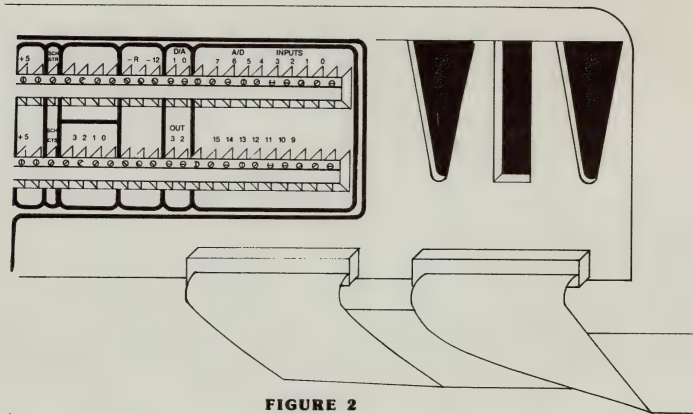

FIGURE 2
- G. CONNECT THE OTHER END OF THE ISAAC/APPLE CABLE TO CONNECTORS E1 AND E2 AT THE REAR OF ISAAC'S CHASSIS. (See Fig. 2, next page) Each of these connectors is keyed to fit only the correct plug. Properly connected, the cables will be at the lower edge of the connectors.